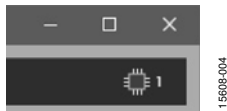

Figure 4. Device Number Indicator
7. On the top right corner, the GUI shows that one device is connected to the GUI (see Figure 4).